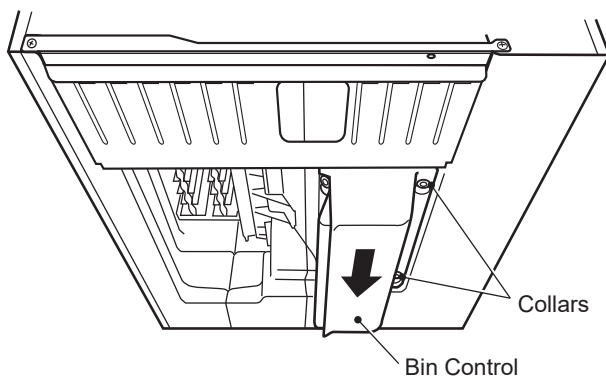

**Fig. 5**
- 6) Route the bin control lead through the hole in the base, then into the bushing provided. See Fig. 5.